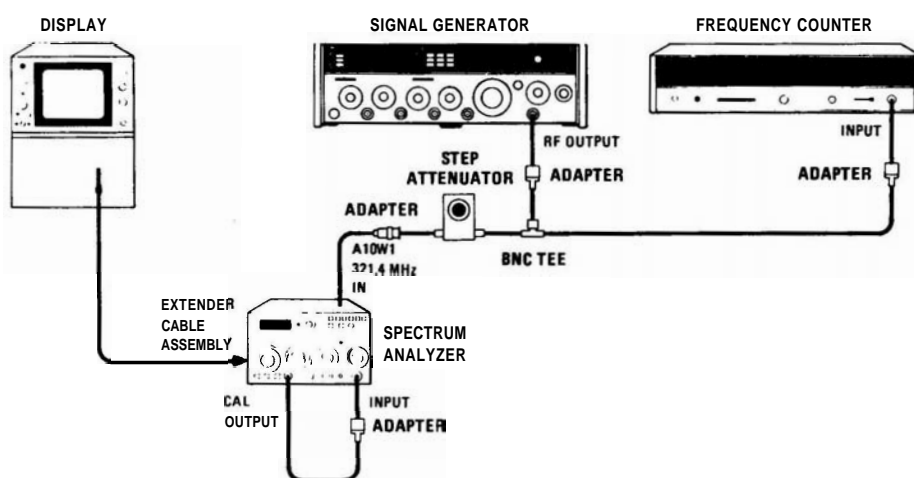

FIGURE 5-8. 3-dB BANDWIDTH ADJUSTMENT TEST SETUP
2. Connect equipment as shown in Figure 5-8 except for signal input to **A10W1**. Connect CAL OUTPUT to spectrum analyzer INPUT **50Ω**.
9. Connect signal generator through the BNC Tee connector to the step attenuator and to the frequency counter as shown in Figure 5-8. Set the signal generator to approximately 0 dBm and the step attenuator to 30 dB.